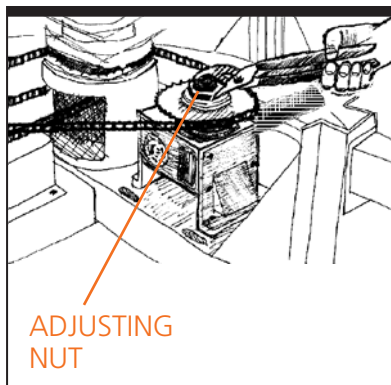

Figure 5-3. Friction Clutch Adjusting Nut
Step 3—Re-Assemble the Friction Clutch. Assemble and install the friction clutch. Hand tighten the adjusting nut (See figure 5-3). Do not completely flatten the disk spring. Also, do not lock the adjusting nut yet. You will lock the adjusting nut after turning on the motor.